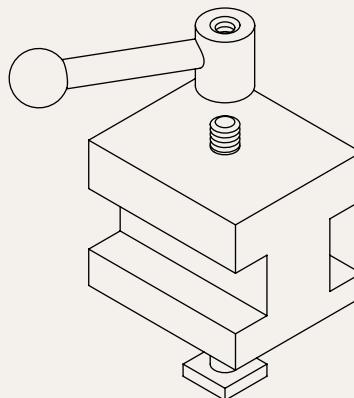
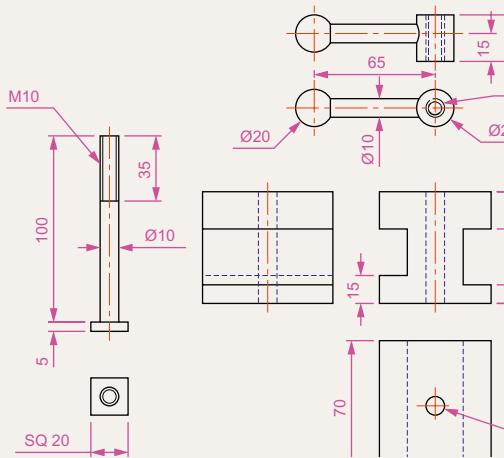

Fig. 7.28 Exercises 4 and 5 – orthographic projections of the three parts of the tool holder
Fig. 7.29 Exercises 4 and 5 – orthographic drawing of the tool holder on which the two exercises are based
- Construct a three-view orthographic projection in an angle of your own choice of the tool holder assembled as shown in the isometric drawing **Fig. 7.28**. Details are given in **Fig. 7.29**.
5. Construct an isometric drawing of the body of the tool holder shown in Figs 7.28 and 7.29.
6. Construct the orthographic projection given in Fig. 7.29.